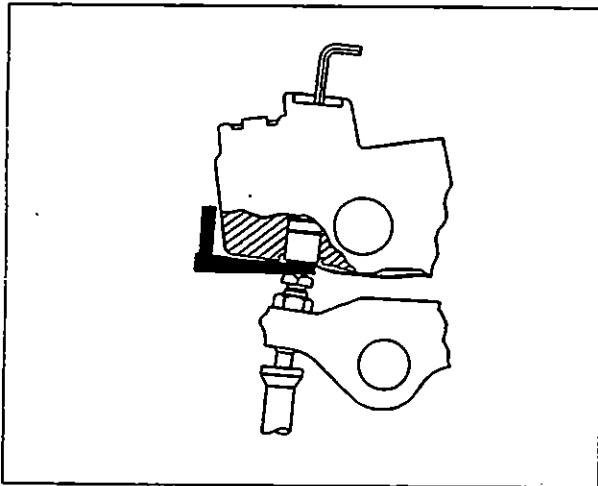

Fig. 1.5.12
- B. Insert the Jacobs master piston holding wedge between the master piston and exhaust rocker adjusting screw. Push the wedge in until the master piston bottoms in its bore (see Fig. 1.5.12). This will prevent the master piston from turning while the trigger adjustment is being made.